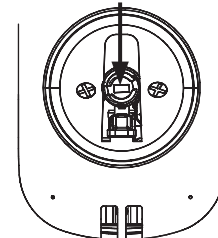

Figure 7A
- Install inside escutcheon on inside mounting plate. Note the horizontal orientation of the tail-piece (Fig. 7A) as you insert the inside escutcheon (thumb turn should be vertical).